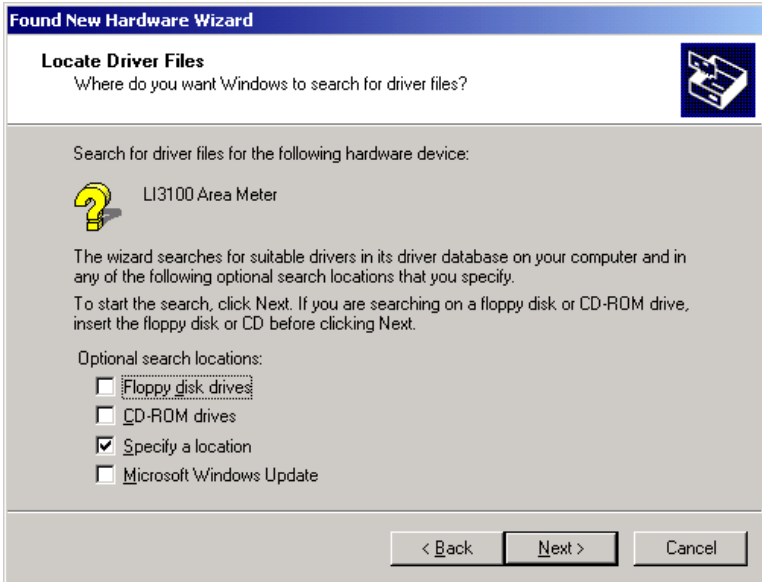

Figure 17. Specify location of driver.
3. Check "Specify a location" (Figure 17).